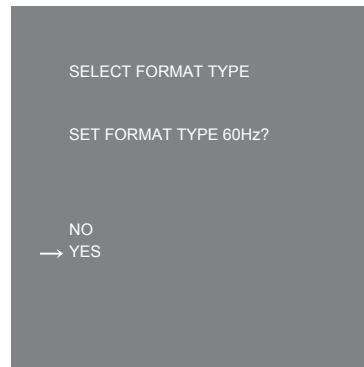

Fig. 2
- 6** Move the cursor (arrow) to [YES] and press the <SELECT> dial button. (Fig. 2)